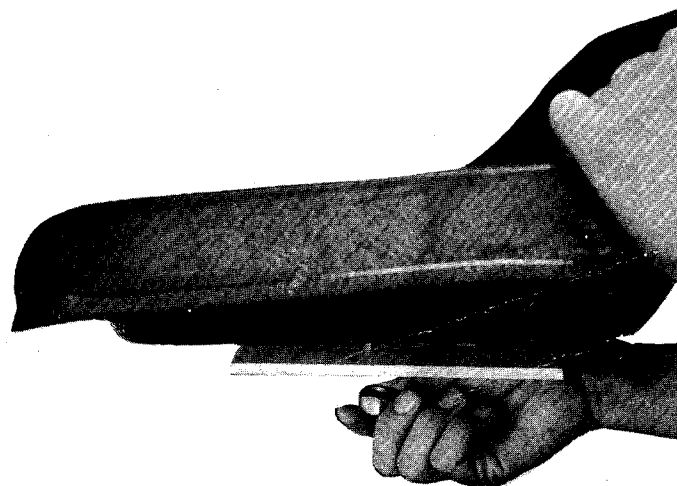

FIGURE 3. SEAT ASSEMBLY
Step 8. Place the seat on the seat spring and secure with hex nut C. See figure 3.